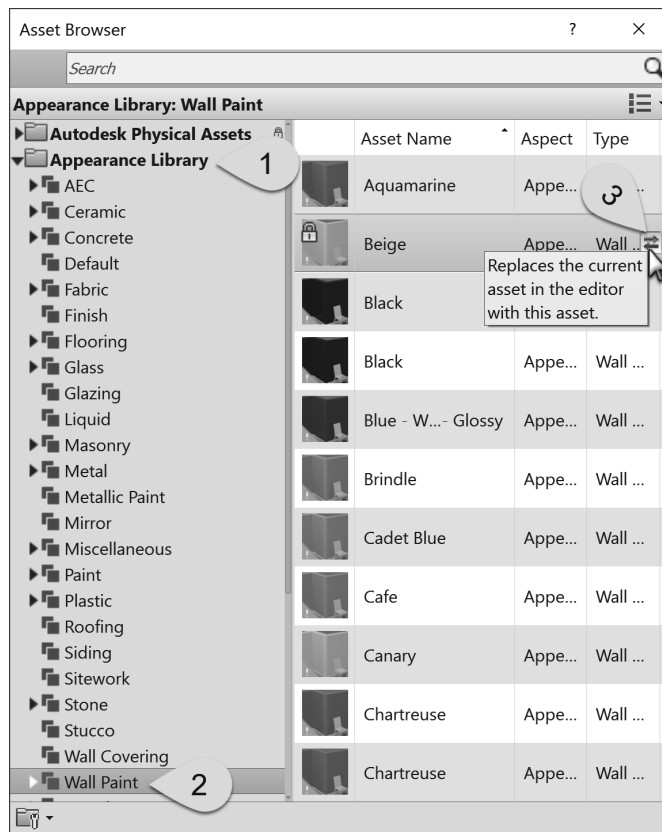

FIGURE 4-3.15 Asset browser, appearance library
The *Asset Browser* has now opened (Figure 4-3.15). Here you need to select a *Wall Paint* asset and overwrite the *Generic* asset in the law office model.
43. In the *Appearance Library* list on the left, select **Wall Paint** (Figure 4-3.15).